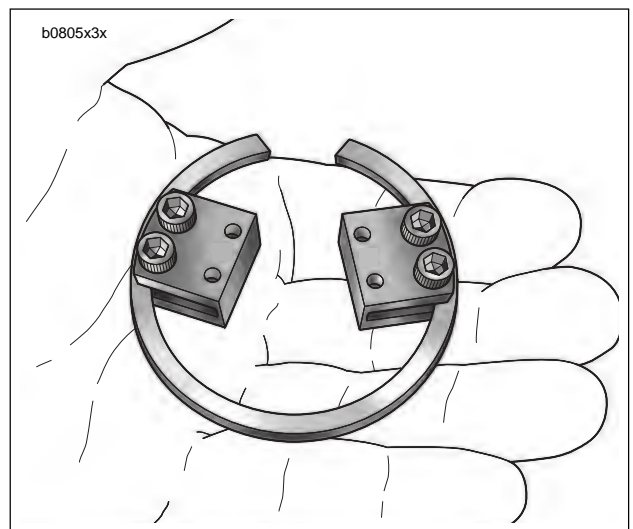

Figure 3-81. Install Claws on Snap Ring
- c. See Figure 3-81. With the gap in the retaining ring being the 12 o'clock position, place the two claws so that the slotted sides engage the inside edge of the retaining ring at the 10 and 2 o'clock positions.